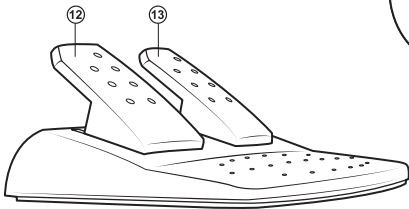

Fig. 3. Foot pedal unit
- Connect pedal unit to the device (Fig. 3) via cable of the pedal unit to RJ-11 jack ⑩, then connect USB cable ⑪ of the device to the USB port of the computer.